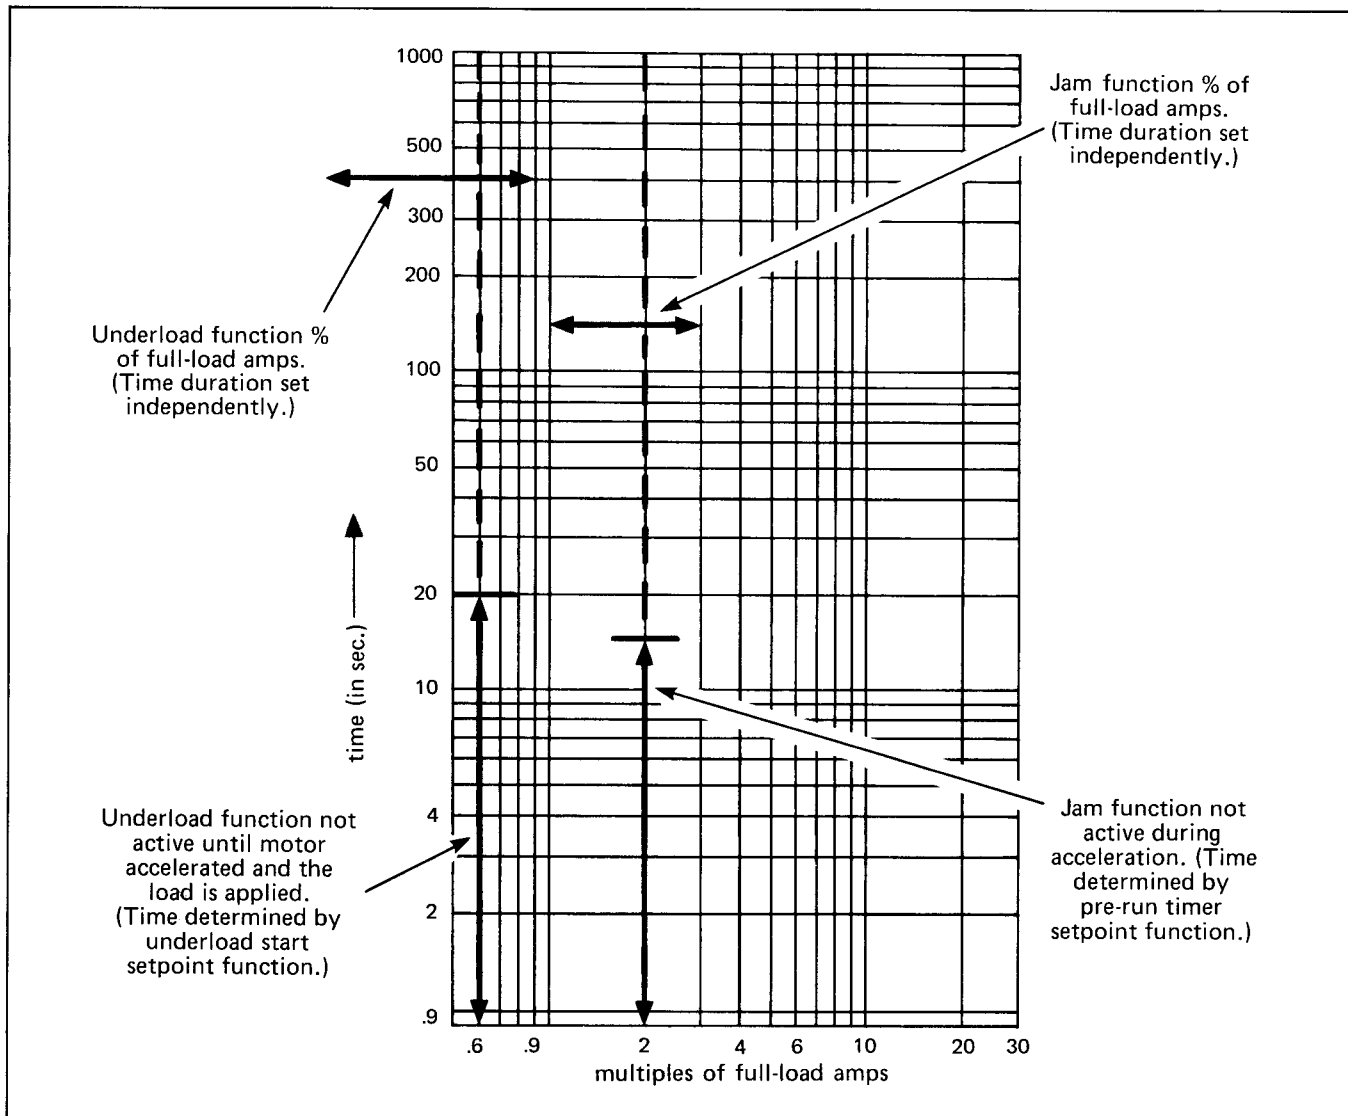

Figure 5.3 – Underload and Jam Protection
5.1.3.4 Underload Function — When the motor is running, a sudden reduction of current below a programmed value for a programmed time would indicate a malfunction in the driven equipment, and an underload trip would be activated. (Refer to Figure 5.3.)
5.1.3.5 Jam Function — Once the motor is running, if an instantaneous current exceeds a programmed value for a programmed time, a trip will occur. (See Figure 5.3 where the jam setpoint is set for 200% of full-load current.) This protection is desirable with gear train and other mechanical type loads where a physical jam could cause damage. The jam function is not active during acceleration; this permits locked-rotor current during acceleration. The locked-out time function is programmed by the time set of the pre-run timer. If this function is not required, the jam function should be set at 1200%. This function is not required for motor protection but may be desirable to provide system protection.